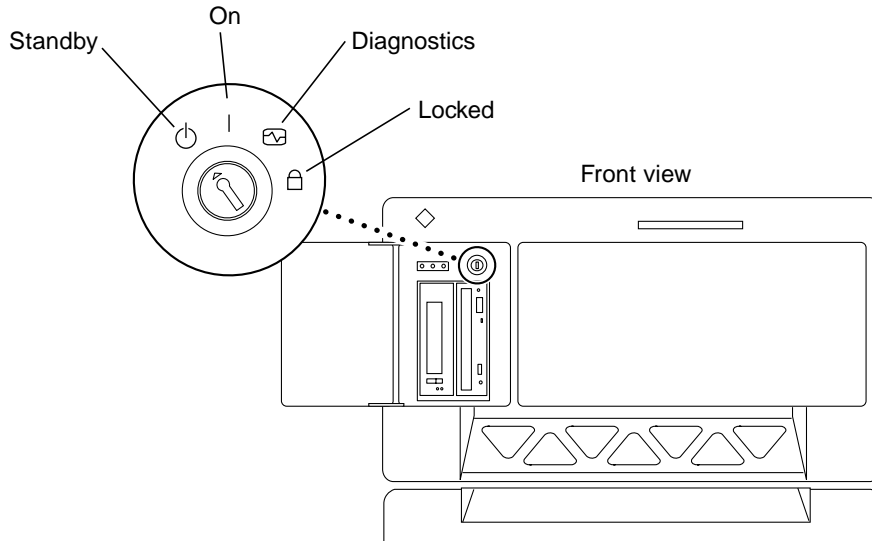

FIGURE 5-1 Sun Enterprise 6x00, 5x00, 4x00, 3x00 Keyswitch Locations
When the switch is set to the Locked position (FIGURE 5-1), the flash PROM is write-protected. When the switch is set to the On position or to the Diagnostics position, the flash PROM is write-enabled.
FIGURE 5-1 shows the keyswitch positions on a 16-slot Sun Enterprise 6000 system. The server systems described in this section have the same keyswitch positions.
- **Turn the keyswitch to the On or Diagnostics position (FIGURE 5-1) before updating the flash PROM.**